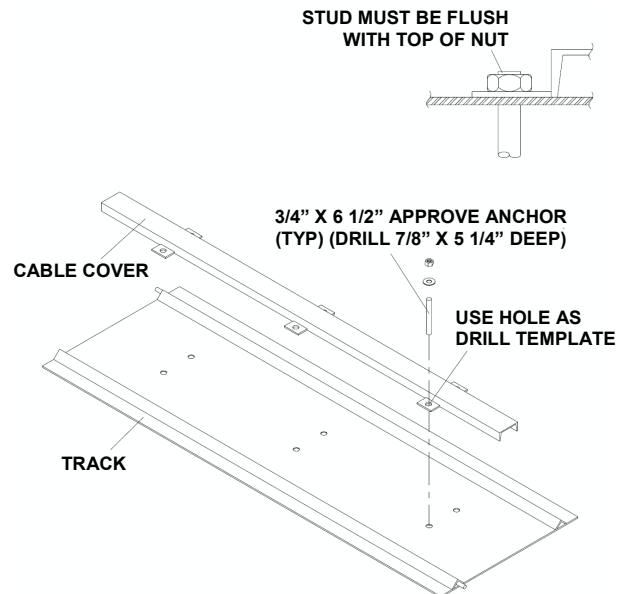

Figure 10
2) Assemble the cable covers and anchor the track sections (Figure 10).